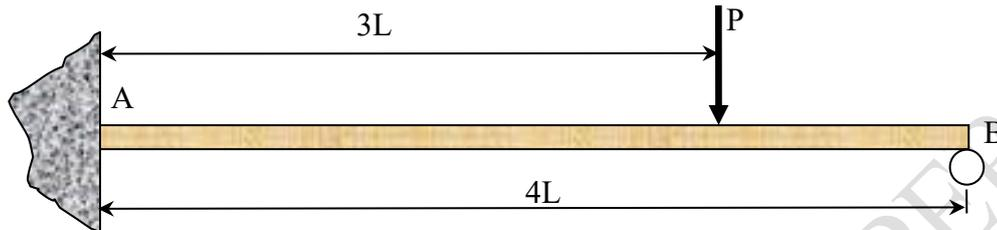

Figure Q1, Beam
- Q1.** The rectangular beam shown below in **Figure Q1** is rigidly fixed at end A and simply supported at end B. Point load **P** is applied at 3L from support A along the length of the beam. The beam span AB is 4L in total.